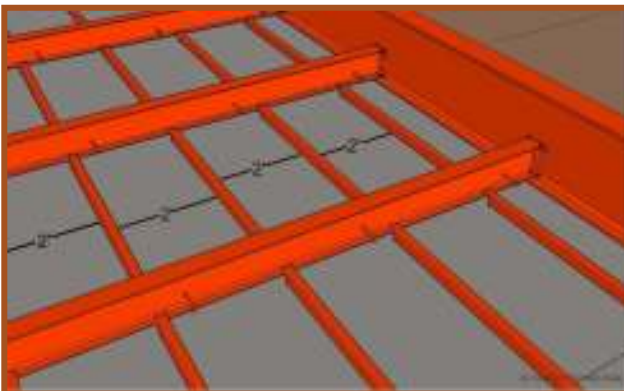

Figure 5 Shoring Placement
1. Place **shoring in** between the crossbeams to prevent corrugate pans from sagging. See Figure 5.